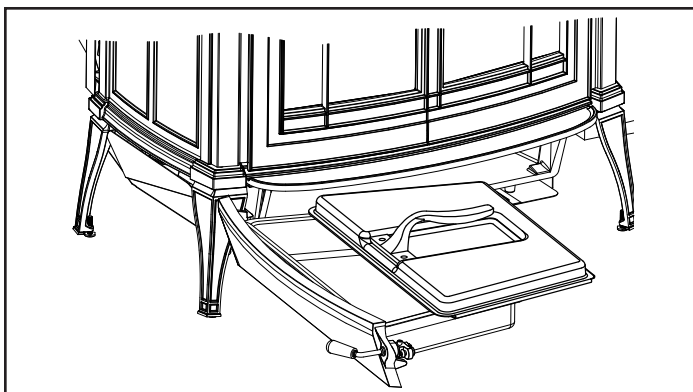

Figure 2.10 - Be sure the cover is securely attached before removing the ash pan.
- Slide the cover onto the pan, making sure it is securely closed. (Figure 2.10)